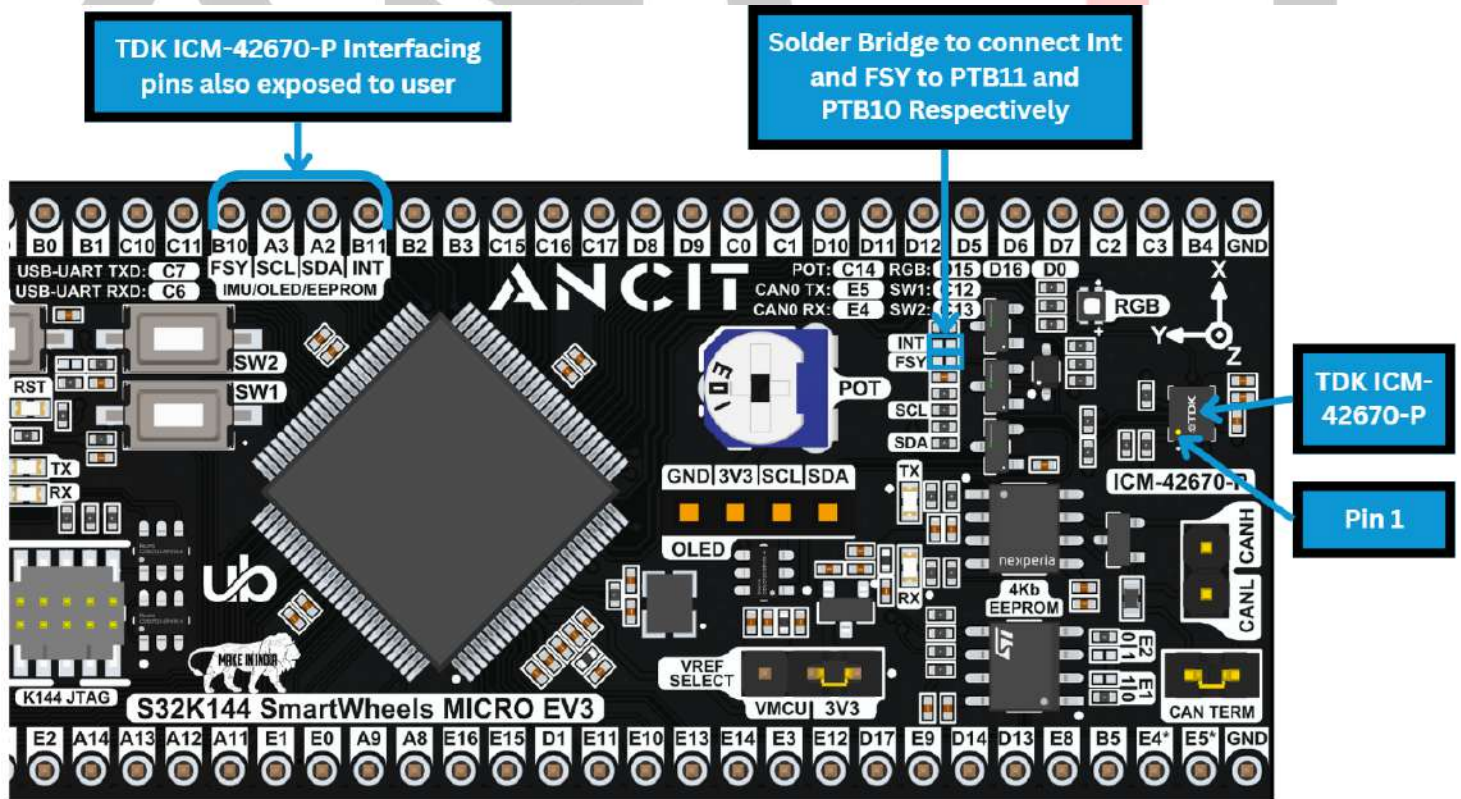

Fig 15 : ICM-42670-P IMU location and Orientation
- The ICM-42670-P is located towards the right side of the S32K144 SmartWheels Micro EV3. The user can take reference of pin number 1 for determining the orientation of the ICM-42670-P on the S32K144 SmartWheels Micro EV3 as shown in Fig 15.